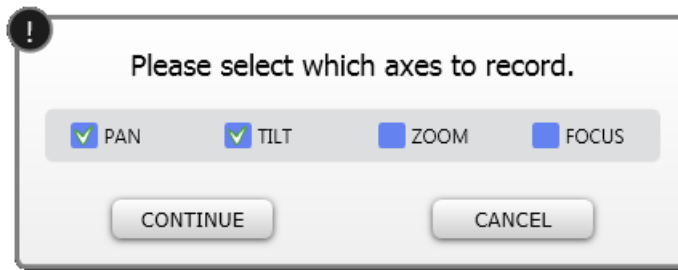

Figure 49 - Pan and Tilt Axes are Selected for Recording
3. In the **Please select which axes to record** dialog box, select the axes you want to record. Check marks indicate axes to be recorded. In Figure 49, the **PAN** and **TILT** axes are selected for recording.